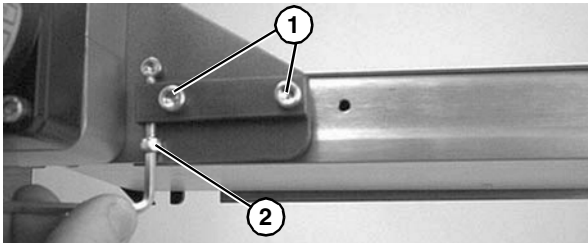

Figure 54
1. Loosen two (2) screws (Figure 54, item 1). Tighten timing belt tensioner screw (Figure 54, item 2) to 15 in-lb (1.7 Nm).
2. Tighten screws (Figure 54, item 1) to 80 in-lb (9 Nm).
1. Loosen two (2) screws (Figure 54, item 1).
2. Loosen timing belt tensioner screw (Figure 54, item 2).
8. Tighten timing belt tensioner screw (Figure 54, item 2) to 15 in-lb (1.7 Nm)
9. Tighten screws (Figure 54, item 1) to 80 in-lb (9 Nm).